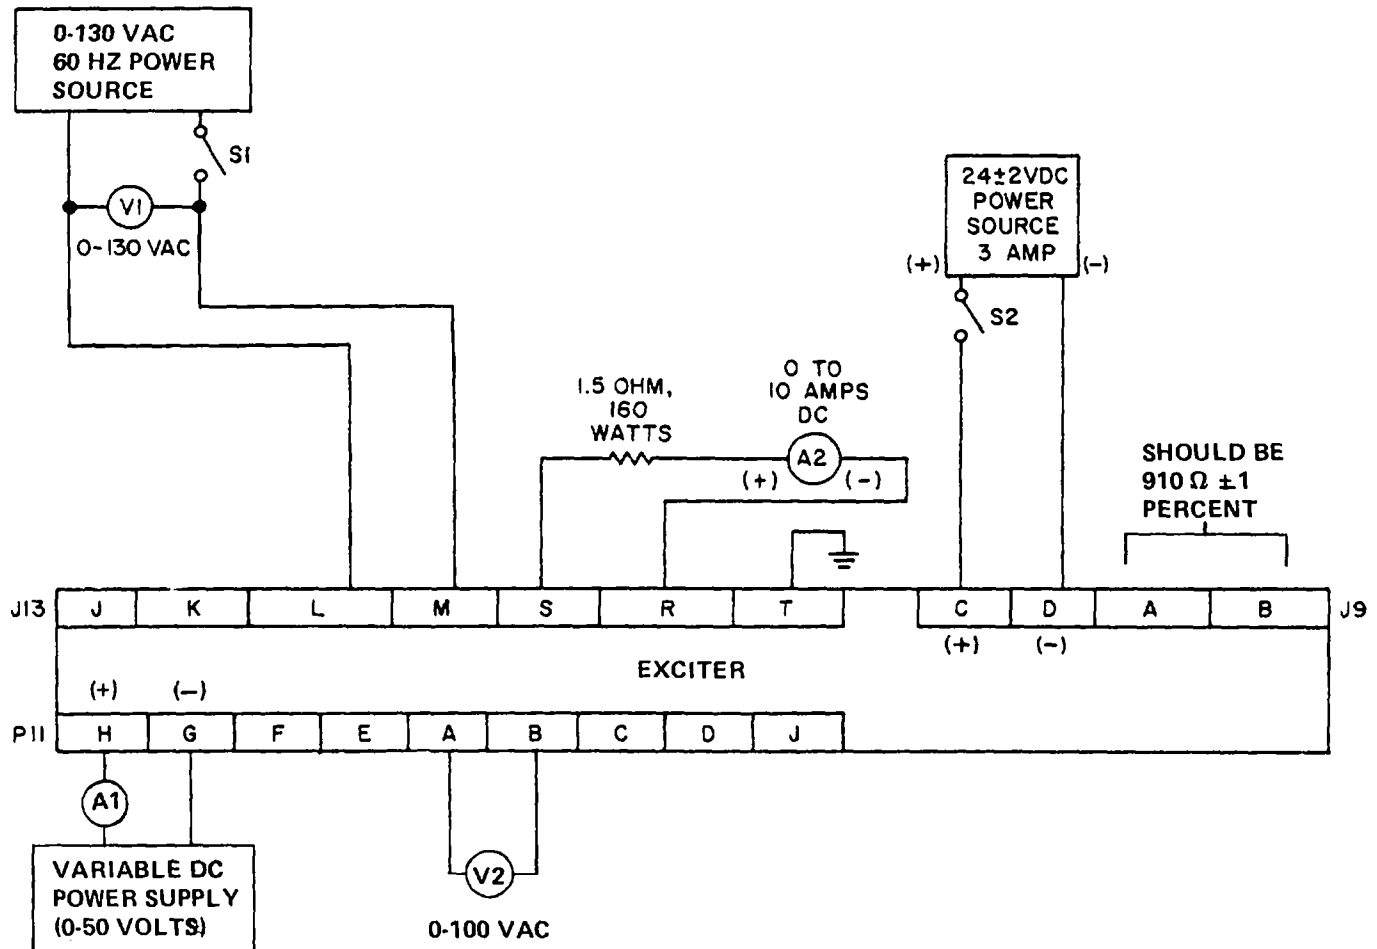

Figure 6-7. Exciter, Test Setup
- (1) Connect exciter A11 to test equipment as shown in figure 6-7.
- (2) Set test switches to open.
- (3) Perform tests specified in procedural analysis table 6-4.
(4) Deenergize and disconnect test setup of figure 6-7.